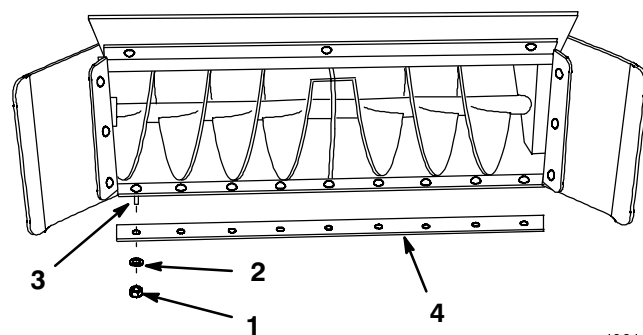

Figure 27
3. Remove nuts, washers, carriage bolts and scraper blade (Fig. 27).
4. Reverse the scraper blade and install it with the previously removed hardware (Fig. 27).